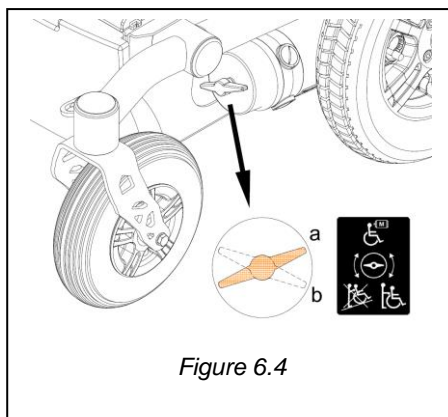

Figure 6.4
- 'Drive' mode. In this position, the chair can not be pushed (a in figure 6.4).
- 'Push' mode. In this position, the chair can not be driven using the controller (b in figure 6.4).